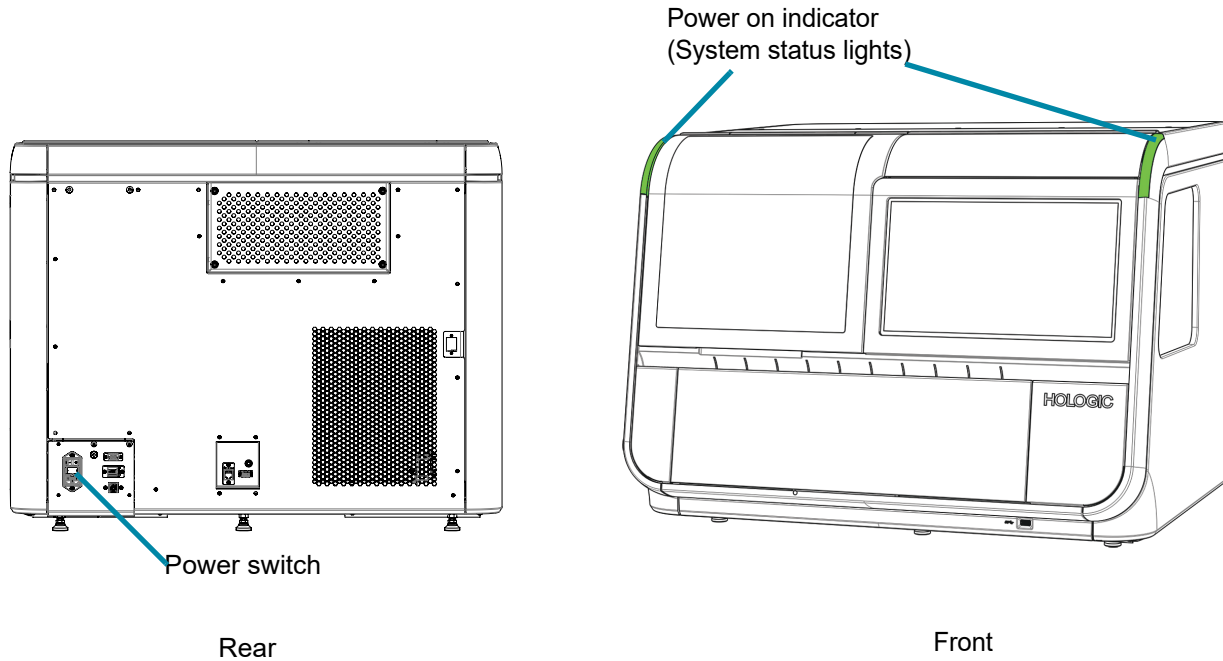

Figure 4-2 Digital Imager Power Switch
2. Press the rocker switch on the rear of the Digital Imager to ON (I). (See Figure 4-2.)